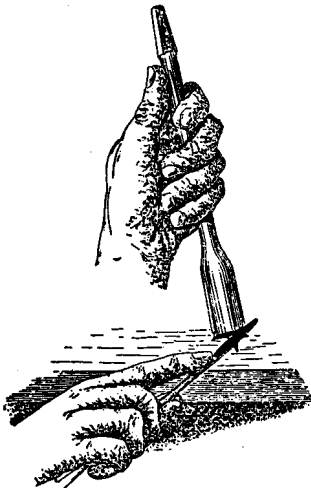

FIGURE 12.
- (4) *Resharpener Head Cutter*—Hold the bit with the left hand resting on a solid surface as shown in Figure 12. With an auger bit file, sharpen the cutting edge to a straight line keeping the bevel the same as it was when new.